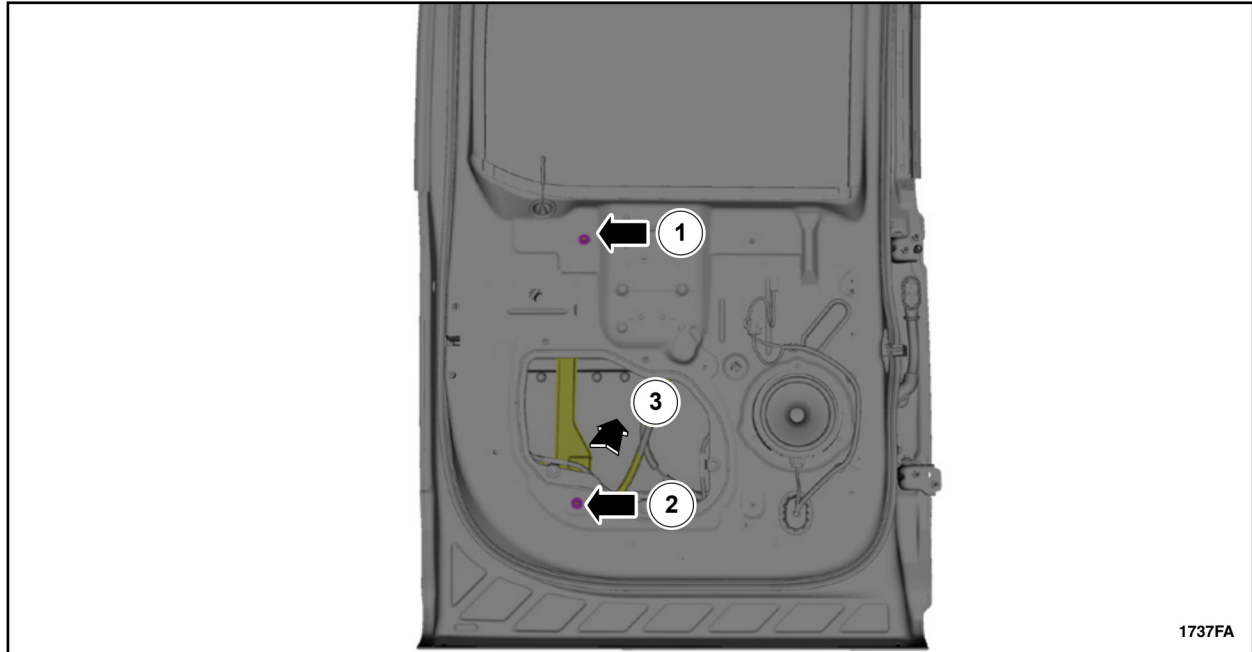

FIGURE 36
8. Position the lower end of the latch side door window regulator aside. See Figure 36.
24. Position back the lower end of the latch side door window regulator by reversing Step 8. See Figure 36.